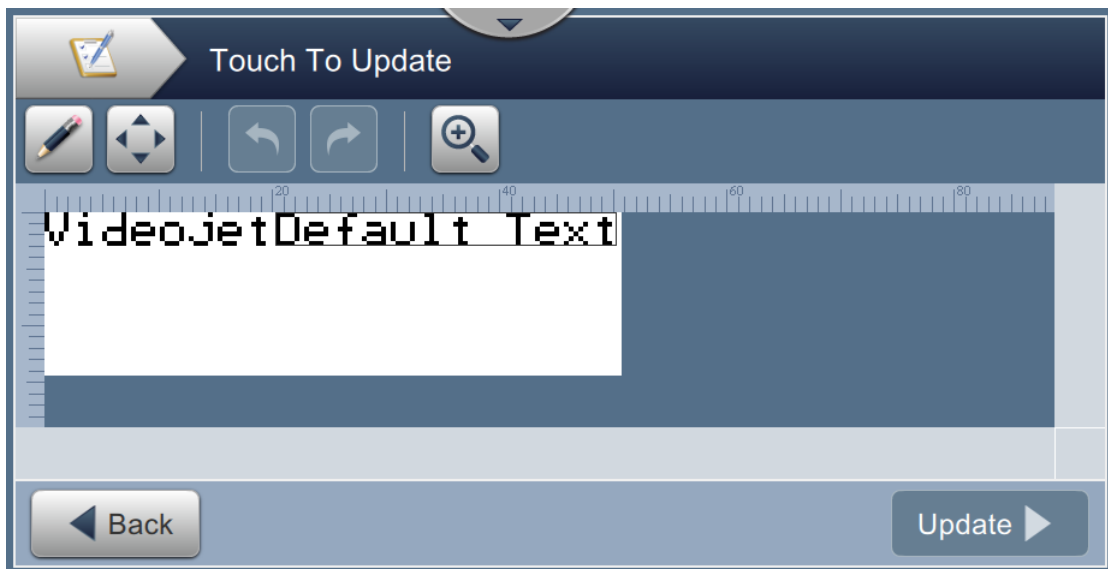

Figure 5-18: Job Editor
3. To edit a user prompted field, touch the field and then touch the  button as shown in Figure 5-18.
5. To move the field location, touch the field and then touch the  button as shown in Figure 5-18.